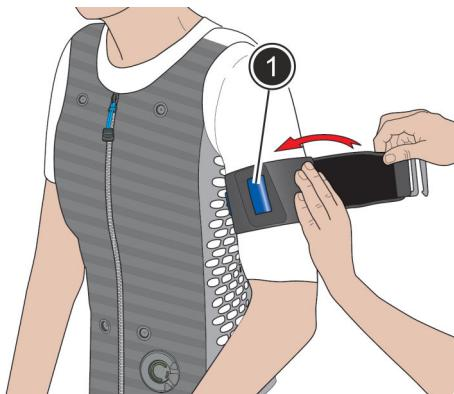

Fig. 39: Putting on the i-body® strap flex
*ⓘ The pushbutton and the loops (Fig. 39/1) on the i-body® strap flex must face outwards.*